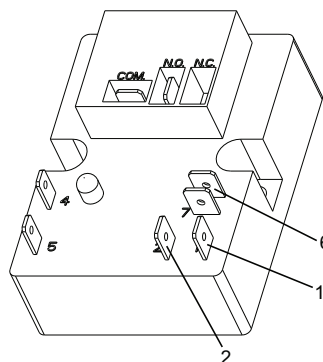

Fig. 21: Economaster Time Delay Relays (TDR)
There are two versions of the Pump Time Delay. The first is an electronic device that allows the operator to set a variable time (3 to 10 minutes) for the pump to run after the heater shuts off. See Fig. 21 (A). The time is factory-set at 7 minutes and it can be re-adjusted in the field.
The second version is a fully enclosed solid state Time Delay Relay (TDR) with a white jumper that selects one of two time delays. See Fig. 21 (B). If the jumper is on pins 6 and 7 (default) the delay time is 5 minutes. If the jumper is not on pins 6 and 7, the time delay is 10 minutes.